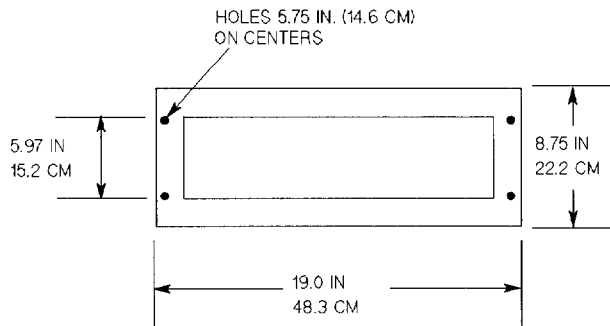

Figure 1-18.
1. Prepare mounting posts in housing with 10-32 cage nuts (not supplied). Before clipping any cage nuts into holes, measure from front-to-back and mark hole locations. Refer to Figure 1-18 for basic EIA nut location pattern:
4. Install base (M1401-03040) onto HP M1401A Receiver Mainframe with four M5 x 6 mm screws. Note lower corners of base (Figure 1-18) are cut away to clear braces.